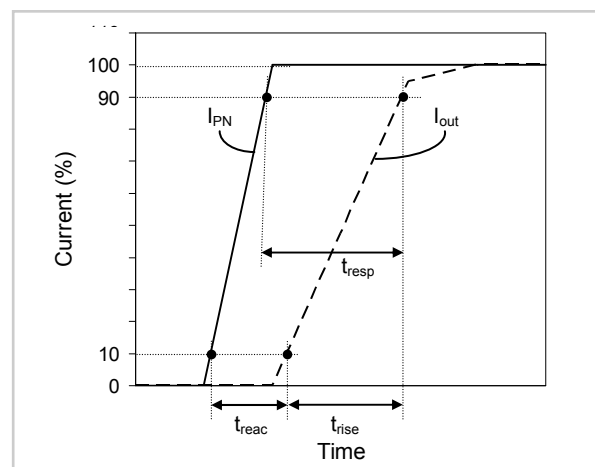

Fig.3: Definition of reaction time ( $t_{reac}$ ), rise time ( $t_{rise}$ ) and response time ( $t_{resp}$ ).
2)  $I_P = I_{PN}$  with  $di/dt$  of 75 A/ $\mu$ s. See Fig.3.